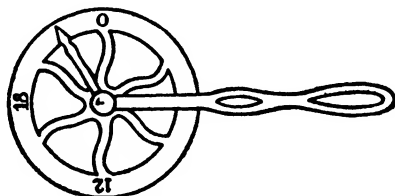
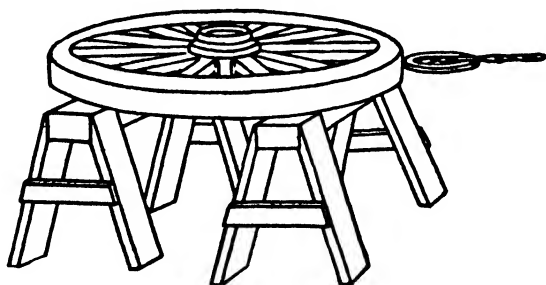

FIG. 63
FIG. 64
11. Grasp the tire measuring wheel (Fig. 63) by the handle and place zero graduation mark of the measuring wheel even with the right hand side of the opening between the ends of the felloes. Walk around the wheel to the right, letting the tire measuring wheel travel on the outside of the rim, near the center. Fig. 64. Go clear around the wheel and when the tire measuring wheel crosses the opening, stop and set the pointer on the wheel even with the left side of the opening between the ends of the felloes.